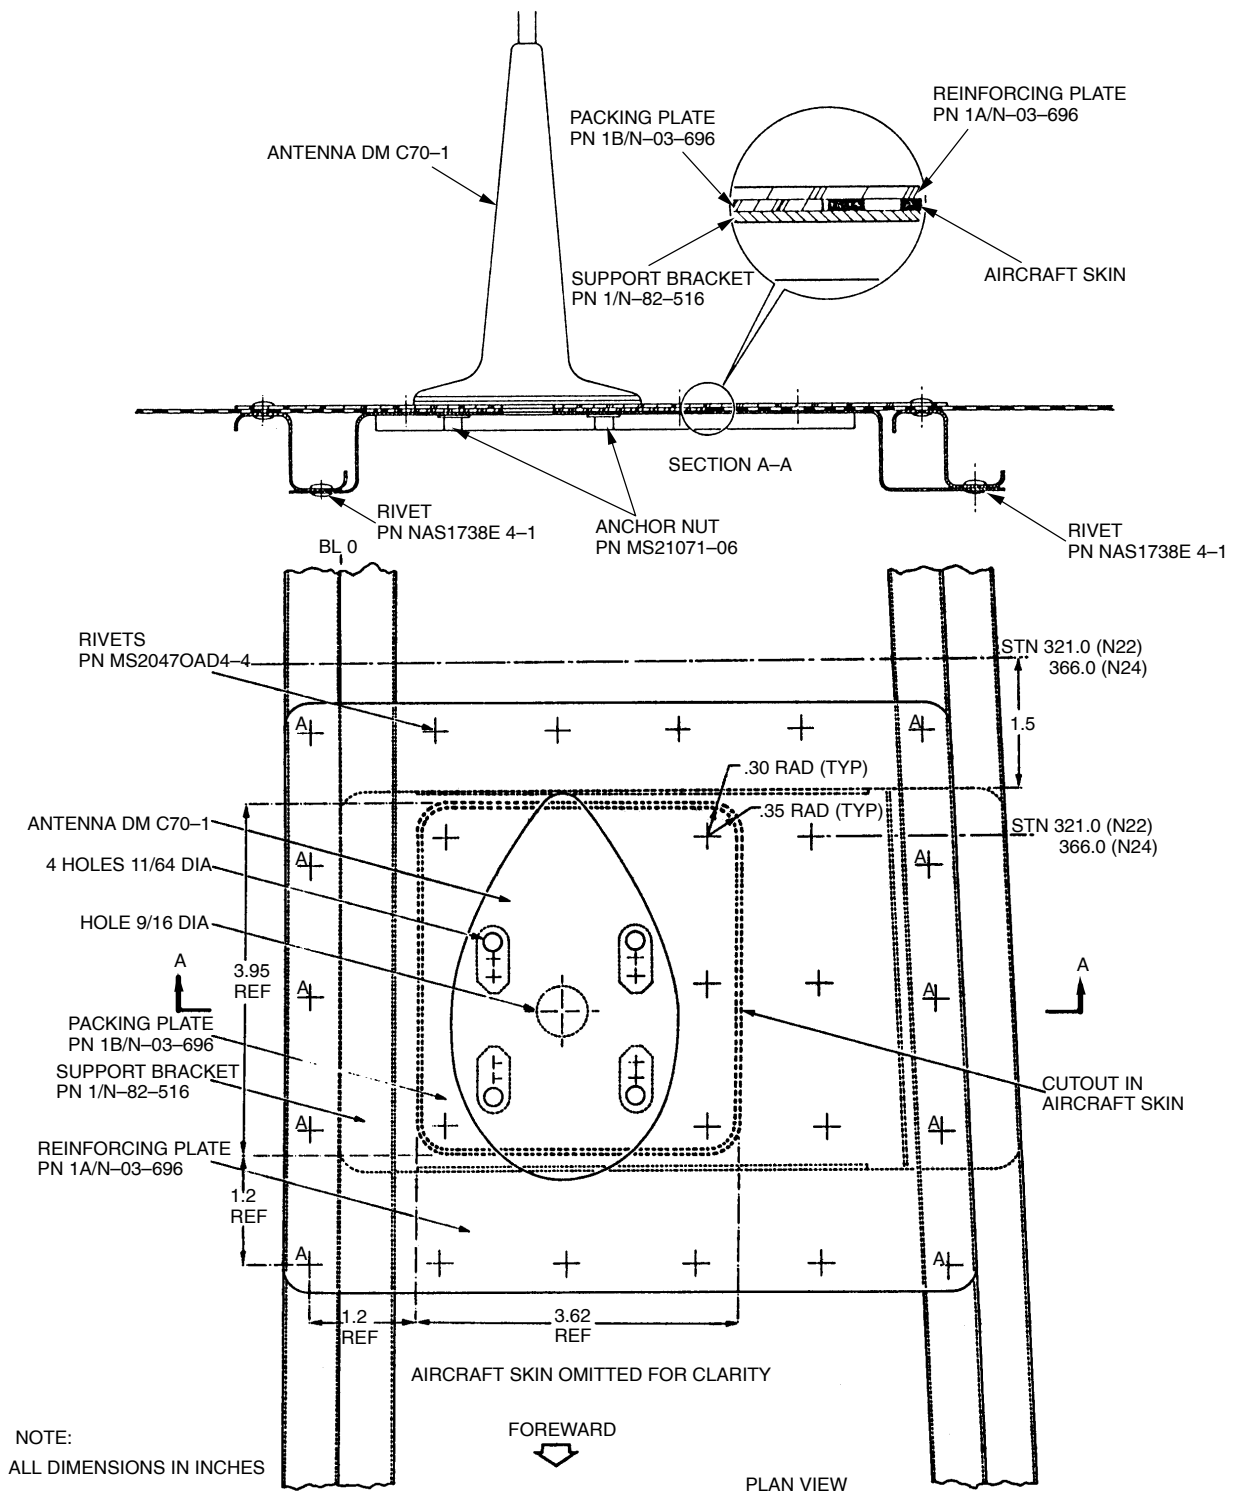

Figure 1 Installation of Mod N368
- D. Cut away the section of the aircraft skin as shown in Figure 1 and smooth the edges around the cut out.
- F. Remove the existing rivets at the positions marked A in Figure 1 and rivet the reinforcing plate PN 1A/N-03-696 to the aircraft skin at the positions marked A. Wet assemble the rivets PN MS20470AD4-4 with pigmented jointing compound.
- K. Fit the support bracket in position shown in Figure 1 and secure to 1 stringers using pop rivets PN NAS1738E4-1. Ensure that the holes in the bracket align with those in the packing plate and reinforcing plate. Use Brisal bonding paste, or equivalent, in the area of the antenna mounting holes and wet assemble the securing rivets with pigmented jointing compound.
- (1) Clean the antenna base and the relevant top skin area with a lint-free cloth moistened with petrol and dry the areas with a clean, lint-free cloth.
- (2) Thoroughly clean the antenna attaching screws PN MS24693-S30, the anchor nuts and the screw holes. This ensures that an efficient electrical bond is obtained between the antenna and the aircraft skin.
- (3) Apply a thin layer of synthetic rubber sealant to the antenna base, the top skin mounting area and both sides of the new base gasket.
- (4) Place the base gasket on the top skin, ensuring that the base gasket is correctly aligned with the mounting holes.
- (5) Position the antenna on the base gasket and attach the antenna with the screws PN MS24693-S30. Torque load the screws to between 10 and 15 lb inches.
- (6) With approved test equipment determine the electrical bond resistance between any one antenna attaching screw and the fuselage skin, and check that the resistance is 0.006 ohm or less. If not, remove the antenna and repeat steps (1) to (6) inclusive.
- (7) Seal the screw heads in the antenna base with PR1222 synthetic rubber sealant.